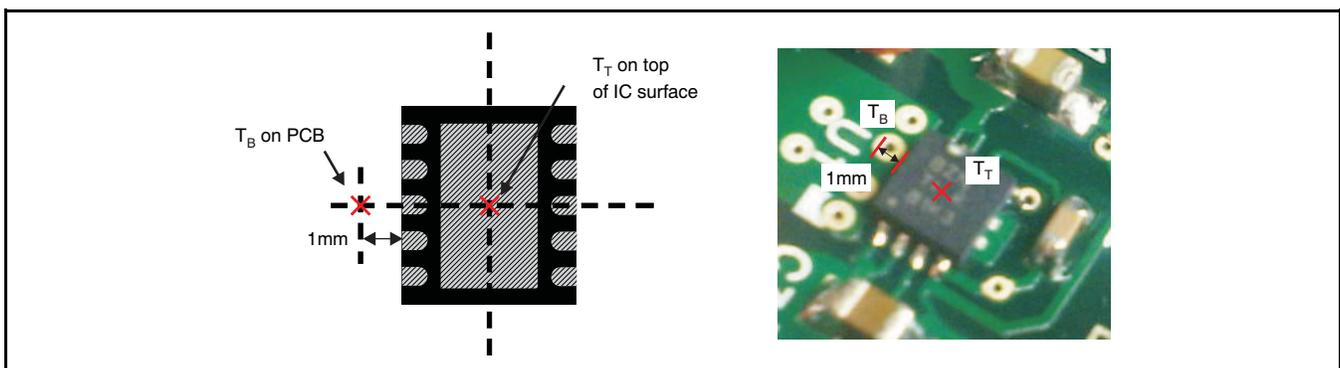

Figure 30. Measuring Points for T_T and T_B
Where P_D is the power dissipation shown by Equation 5, T_T is the temperature at the center-top of the IC package, and T_B is the PCB temperature measured 1mm away from the IC package on the PCB surface (as Figure 30 shows).
- Deleted (previously numbers) Figure 28 through Figure 30 **14**